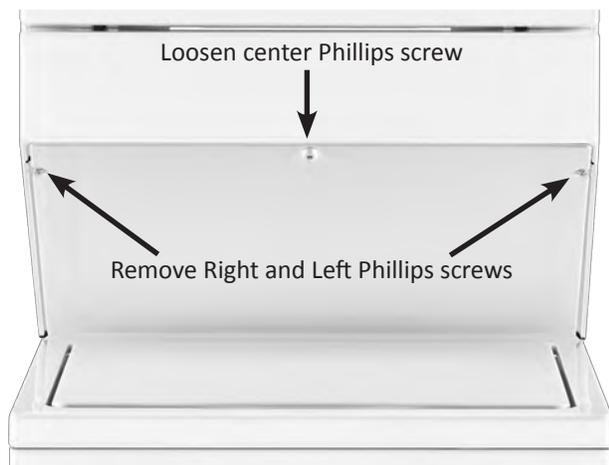

Figure 5
9. Use a Phillips screwdriver to remove three screws securing the center transition panel to cabinet (see Figure 5).